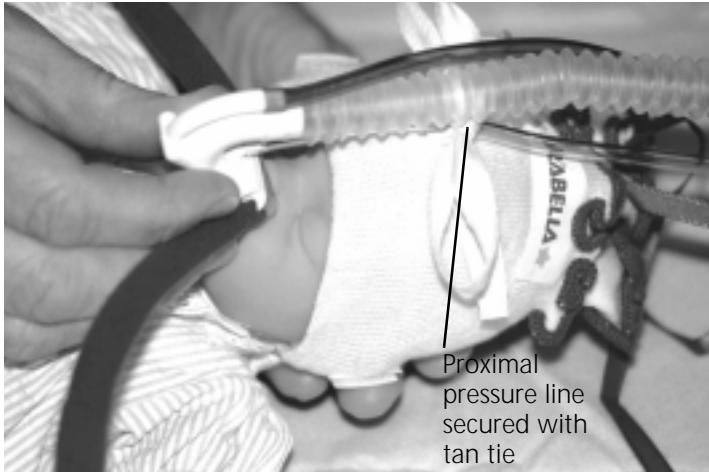

Figure 3-7. Proximal pressure line secured with tan tie
5. Secure the clear proximal pressure line with the tan tie at the top of the Cap (Figure 3-7). Situate the prongs to avoid placing any pressure on the infant's nasal septum. The base of the prongs should *not* rest on the infant's nasal septum.